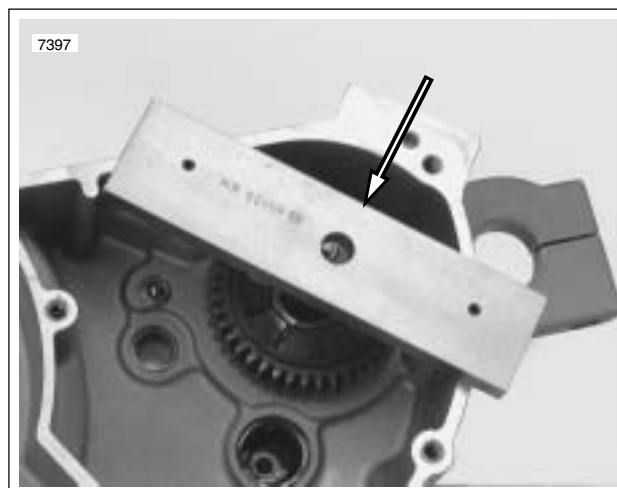

Figure 6-38. Mounting Cross Plate (Part No. B-43983)
5. See Figure 6-38. Place cross plate on crankcase as shown.